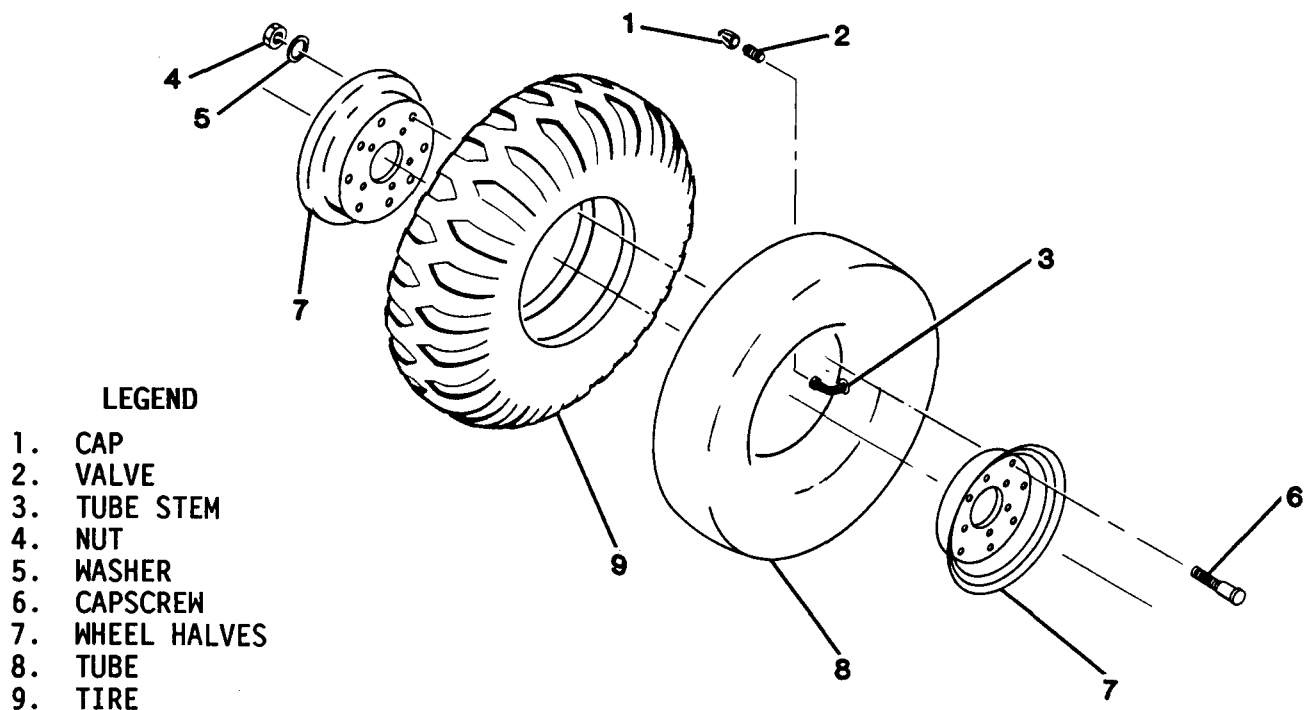

Figure 4-57. Tire and Tube Replacement
(1) Install wheel on studs. Install lug nuts.
(2) Lower generator set to ground. Tighten lug nuts and torque to 580 inch pounds (65.53 Nm).
**4-93. TIRES/TUBES.** Maintenance for tires and tubes (figure 4-57) is limited to replacement and repair.
(1) Remove wheel from generator set in accordance with paragraph 4-92a.
(2) Release air pressure in tube by removing cap (1, figure 4-57) and threaded valve (2) from tube stem (3).
(3) Remove nuts (4), washers (5), and capscrews (6) to separate wheel halves (7).
(4) Remove tube (8) from tire (9).